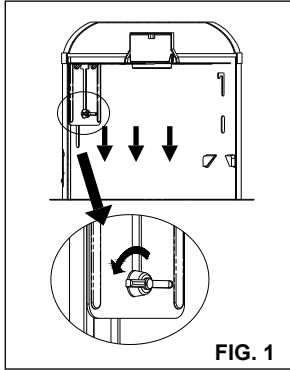

FIG. 1
1. Unscrew the WING NUT inside the CAN to detach the SOCKET BRACKET from the CAN. Disengage the SOCKET from the SOCKET BRACKET. **(FIG. 1)**